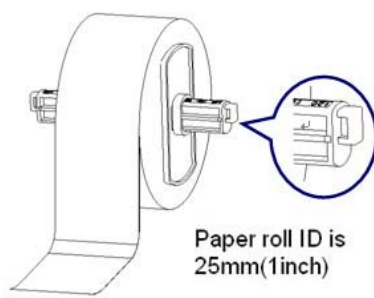
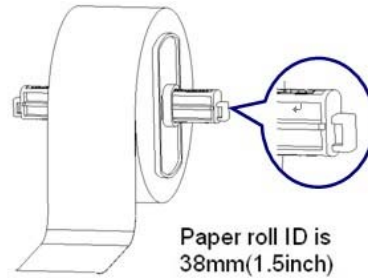

Figure 2.2.4
Figure 2.2.5
- 5) The ID of paper roll has two sizes: 25mm (1 inch) and 38mm (1.5 inch). For different ID of paper roll, the methods to place the paper roll holder into the paper cabinet are different. Detail operation refer to figure 2.2.4 and figure 2.2.5.